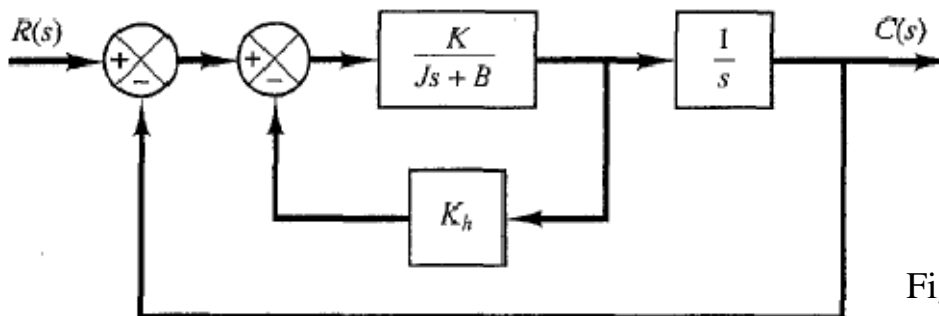

Fig. 4
- 7) For the system shown in Fig. 4, determine the values of gain K and velocity feedback constant K_h so that the maximum overshoot in the unit-step response is 0.2 and the peak time is 1 sec. With these values of K and K_h , obtain the rise time and settling time. Assume that $J = 1 \text{ kg-m}^2$ and $B = 1 \text{ N-m/rad/sec}$.